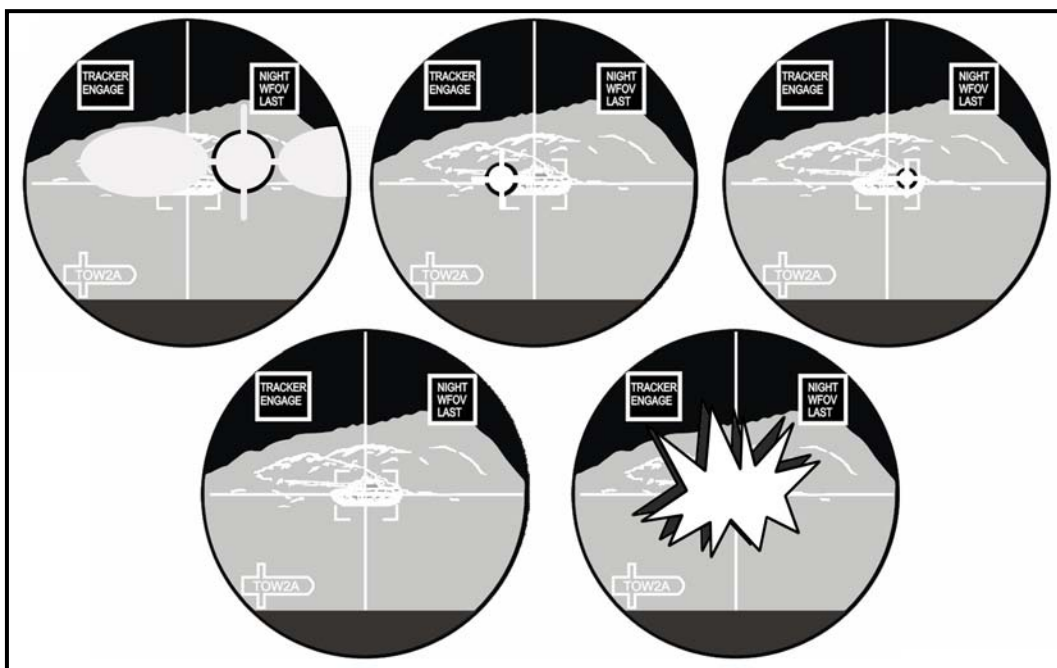

Figure 3-11. Missile impact.
(4) When the missile appears in the TAS display (Figure 3-11), the gunner ignores it. **He never tries to guide the missile.** If he is distracted, his tracking becomes poor and his chances of hitting the target are reduced.